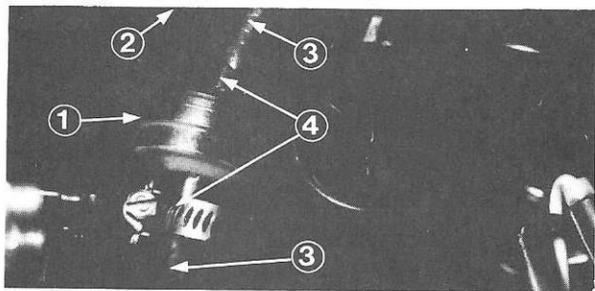

Fig. 32 ① Fuel Filter ③ Fuel Line
1. Remove the clamps and pull the fuel lines off of the filter (Figure 32).